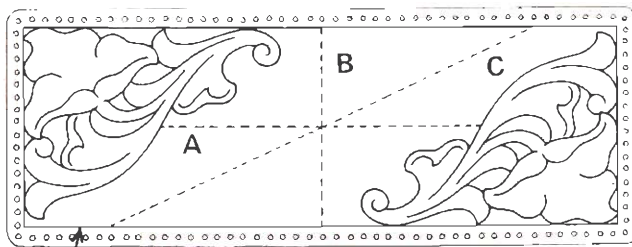

FIG. 3
For a full coverage look try using Basketweave stamps along with the corner designs (4). With a wing divider trace a border line around your project; then scribe a guideline with a ruler using a ball-point stylus. This line will serve to keep the Basketweave pattern straight. These lines can be (A) horizontal, (B) vertical or (C) angled, depending on the effect you are trying to create. (Fig. 3.)